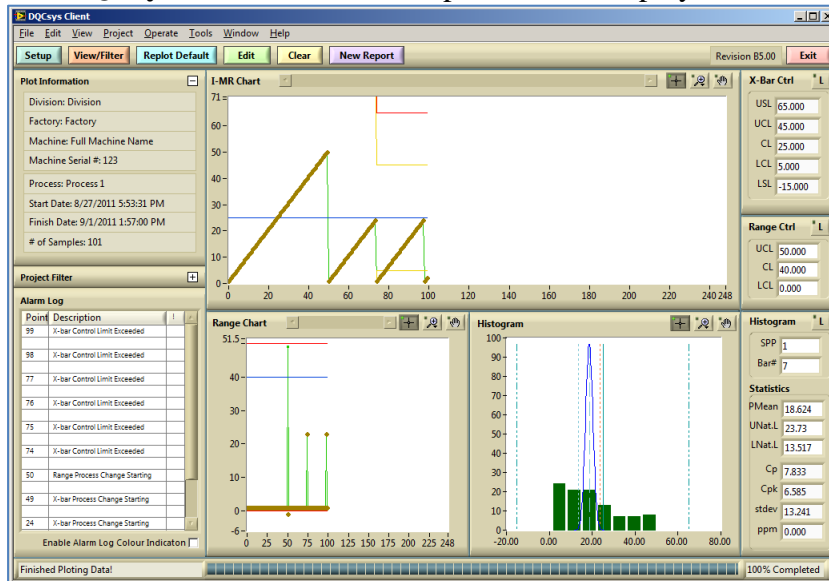

Figure 3-2: The Plotted Data on **DQCsyst Client** Window
2. The **DQCsyst Client** window will process and display the searched data. (Figure 3-2)
To hide or show the **Project Filter** section, click the surrounding area of the text “Project Filter”. (Figure 3.2- 2)